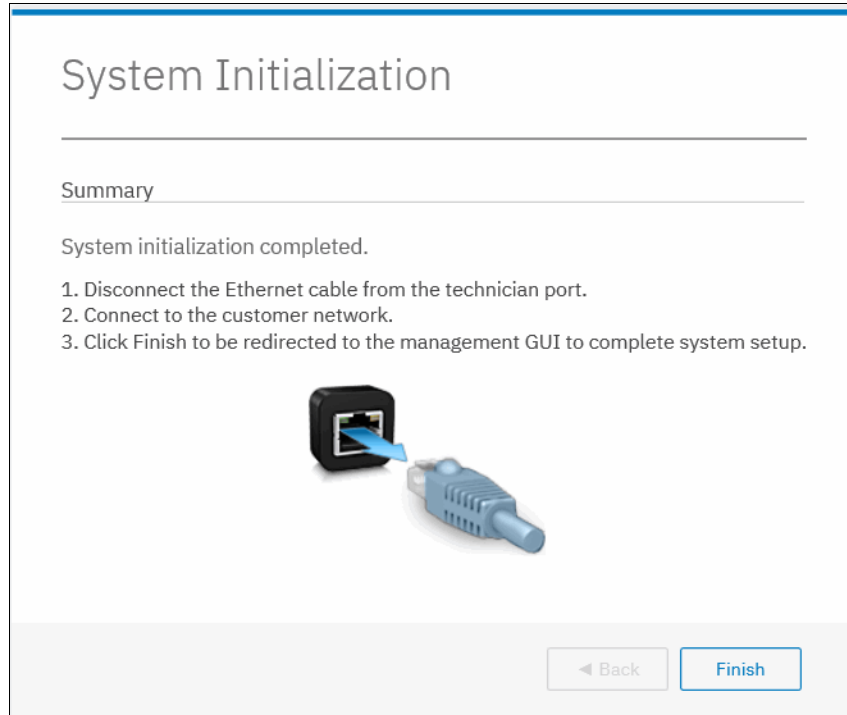

Figure 3-8 System Initialization: Complete
7. A window with restart timer opens. When the timeout is reached, you can click **Next** to see the final initialization window, as shown in Figure 3-8. Follow the instructions, and browser is redirected to the management IP address to access the system GUI after you click **Finish**.